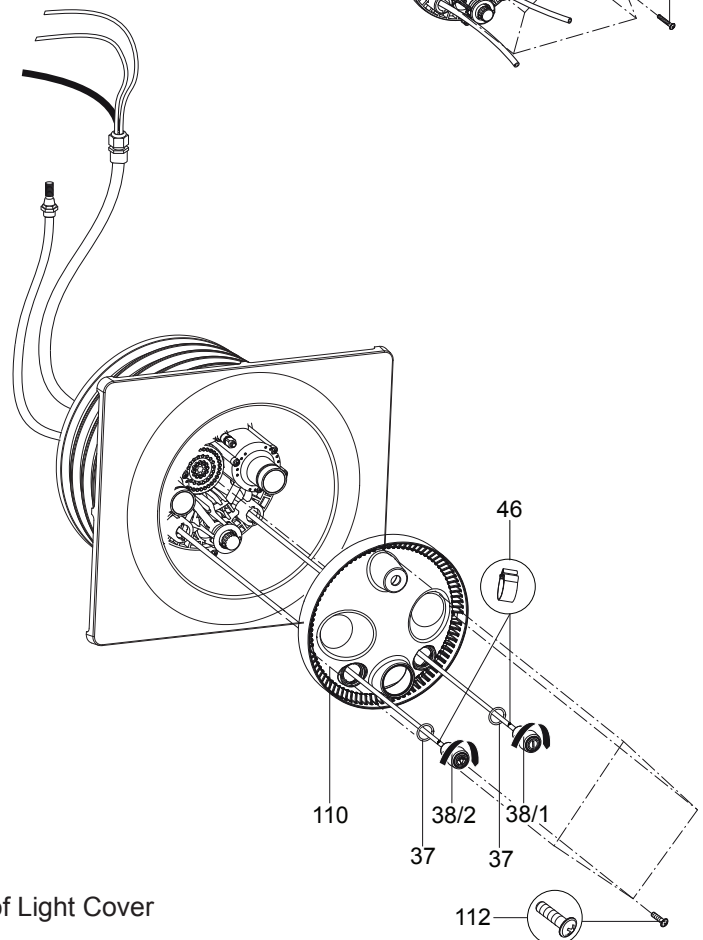
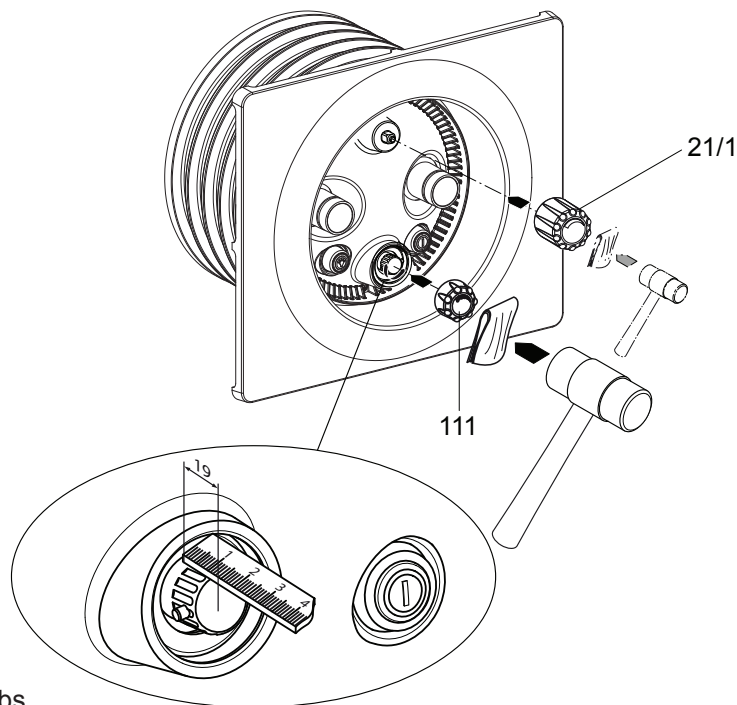

Figure 16
Figure 17
9. Guide the pneumatic hoses through the two (2) bottom openings of the light cover (part# 110). **NOTE: Light ON/OFF is on the left and the pump ON/OFF button is on the right.** Align the light cover with the nozzle housing and fasten with four (4) self tapping screws (part# 112). (See Figure 16)
10. Slide one (1) o-ring (part# 37) onto each pneumatic button. Fasten the pneumatic hoses to the corresponding buttons using the hose clamps (part# 48). Insert the two (2) pneumatic buttons through the light cover and into the nozzle housing and lock them by turning them clockwise.
11. Mount the volume control knob (part# 21.1) and air regulator knob (part# 111) by means of a rubber mallet and a protective cloth. (See Figure 17)
12. Mount the volume control knob (part# 21.1) and air regulator knob (part# 111) by means of a rubber mallet and a protective cloth. (See Figure 17)